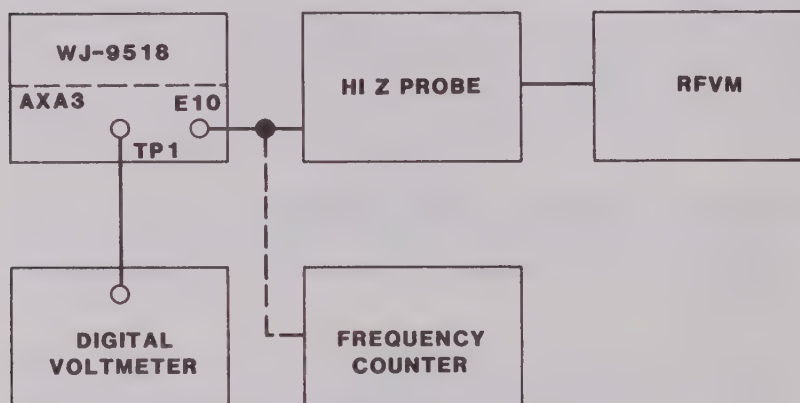

Figure 4-9. 1st LO Tuning Voltage Equipment Connections
1. Connect the test equipment as illustrated by the solid lines in **Figure 4-9** and select DEMOD 1.